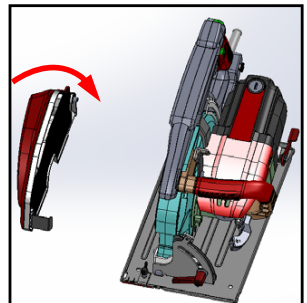

Fig.23
2. Remove chip shield (B). (keeping the bolts screwed on guard). Refer to Fig.23